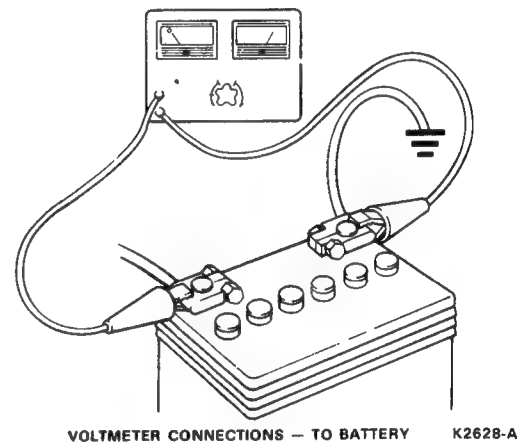

FIG. 9 Voltmeter-to-Battery Connections
1. Connect the negative lead of the voltmeter to the negative battery cable clamp (not bolt or nut), and the positive lead of the voltmeter to the positive battery cable clamp (not bolt or nut) (Fig. 9).